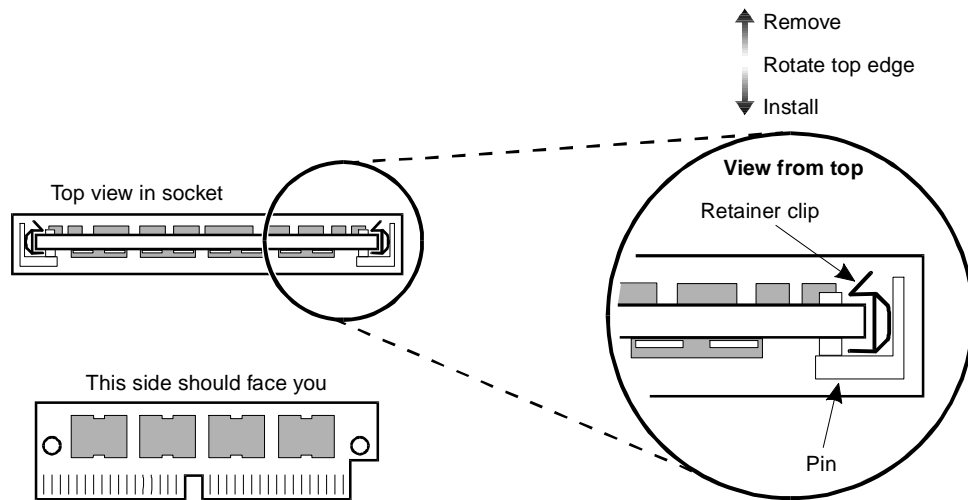

Figure C-2. Removing or Installing Memory SIMMS
9. To remove an existing SIMM, gently release the metal snap locks at the edge of the SIMM connectors. See Figure C-2.